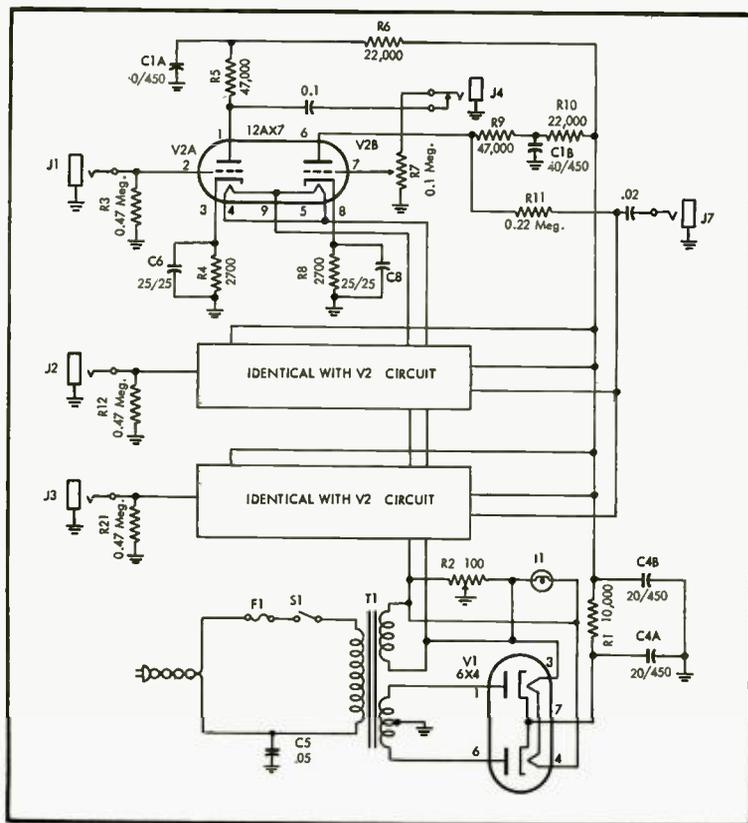

Fig. 1. Simplified schematic of three-channel mixer-amplifier which is flexible in application.
A. Figure 1 shows a schematic of such a mixer. It has three separate channels, and each one can be used with either microphone or high-level input. J_1 , J_2 and J_3 are the microphone inputs, while J_4 is the phono input for the first stage. J_5 is the output jack. When a high-level source is connected to any of the three inputs designed for it, the mike input corresponding to that channel is disabled by the switching action of the jacks used. This was done in order to prevent the shunting action of the mike stage from adversely affecting the frequency response. R_1 is a hum balancing potentiometer. Turn the volume up on all
Aside from the method shown in the schematic in Fig. 1, there are two alternative means for connecting the filaments of the three tubes. By connecting these filaments to a five-volt source rather than a six-volt source, noise output from the mixer is lowered, with some sacrifice in gain. The filaments could also be connected to a d.c. source rather than to alternating current, which would result in a considerable reduction in hum, although the hum is quite low anyway.